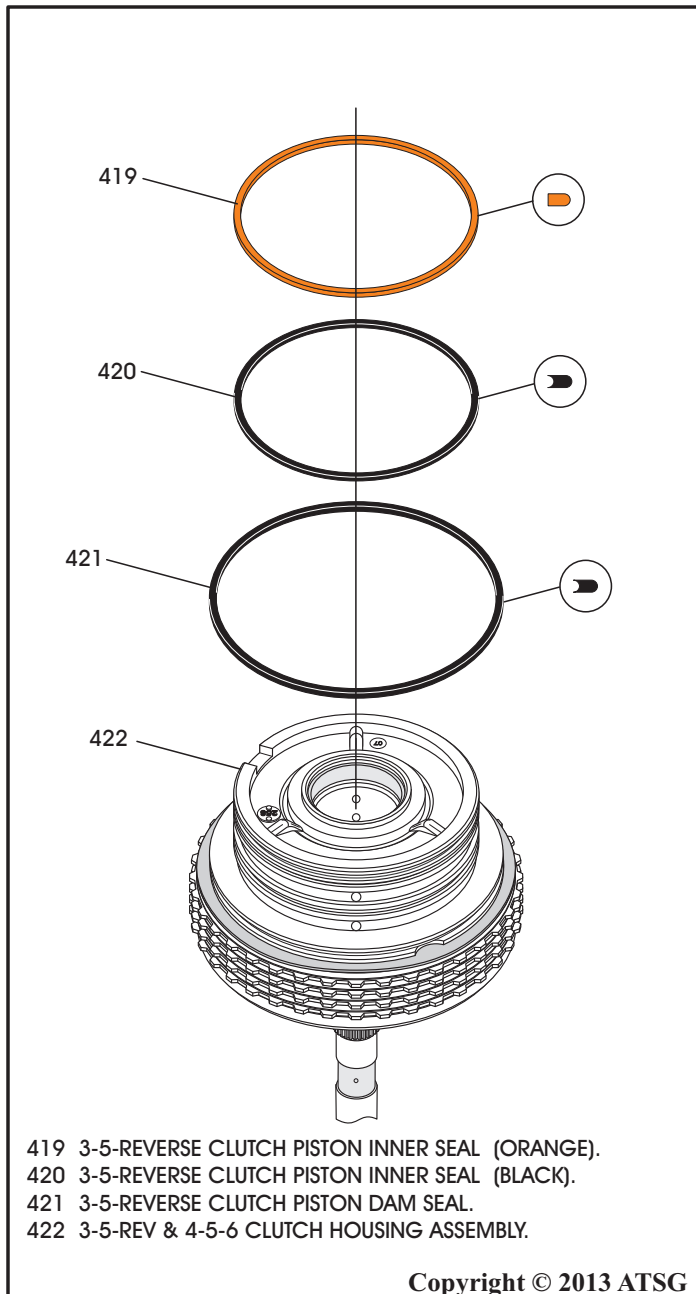

Figure 157
46. Install new 3-5-Rev clutch piston dam seal into the lower groove (largest diameter), as shown in Figure 157, and ensure that it is not twisted.
47. Install new 3-5-Rev clutch piston inner seal that is black in color into next groove up, as shown in Figure 157, and ensure that it is not twisted.
48. Install new 3-5-Rev clutch piston inner seal that is orange in color into the top seal groove, as shown in Figure 157, and ensure that it is not twisted.